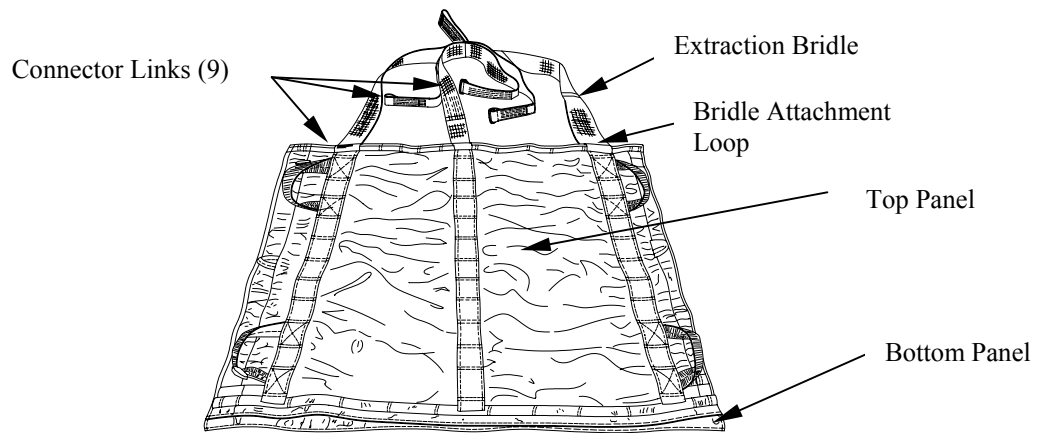

Figure 2. Extraction Bridle Attached to Two Extraction Line Panels.
- b. Using nine connector links, attach six to the double end webs of extraction bridle to bridle attachment loops located on upper end of each panel. Attach three connector links to attaching webs of extraction bridle (figure 2).